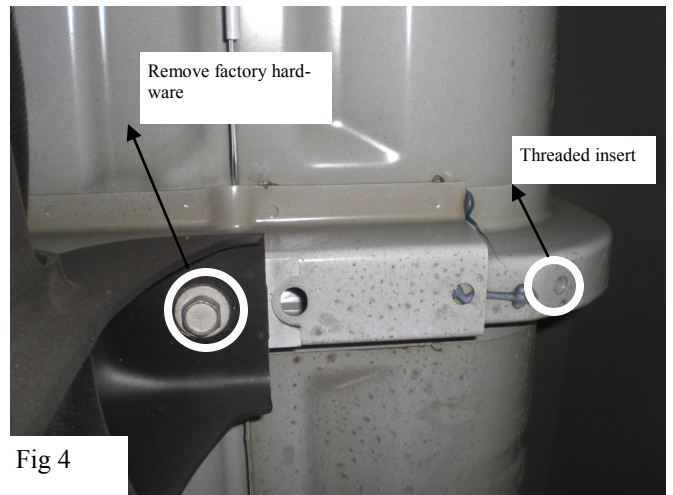

Fig 4
5. Locate the location for the bed mounting bracket (top) (**Note: check for excess epoxy, and remove if necessary on the bed mounting location this can cause the bed mounting bracket (top) to not mount flush.**) (fig 4). For 2011– up remove the factory hardware shown in fig 4 and align the bed mount bracket (top ) to the corresponding mount holes reinstall the factory hardware, and attach the front to the threaded insert in the bed mount location using (1) M8 hex head bolt , (1) M8 lock washer , and (1) M8 flat washer do not fully tighten at this time (fig 5). For 00-10 you must insert (1) M12 stud plate into the bed mount location channel place (1) plastic retainer on the stud plate to prevent it from moving attach using (1) M12 flat washer (1) M12 lock washer, and (1) M12 hex nut. Do not fully tighten at this time.